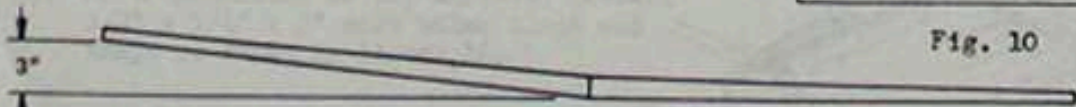

Fig. 11
13. Block up wing tip for proper dihedral as in figure 11 and sand wing roots to match. Join wing halves using 5-minute epoxy.